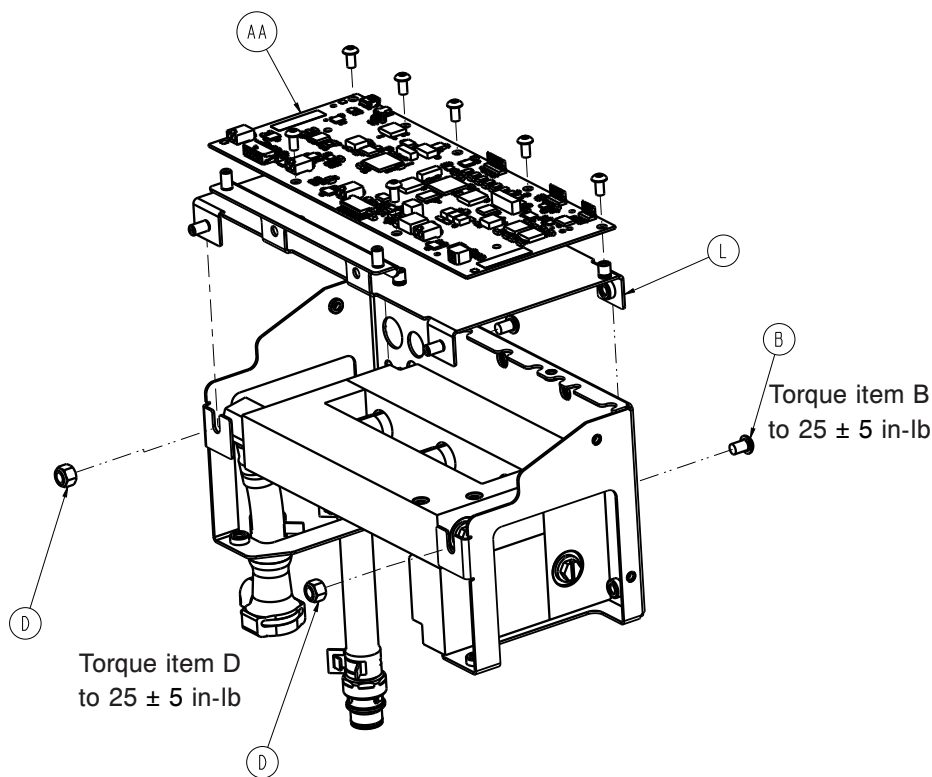

Figure 40 – Outer manifold bracket to MCB support bracket
2. Using a T25 Torx driver, remove the two screws (B) that secure the outer manifold bracket to the MCB support bracket (Figure 40). Save the screws.